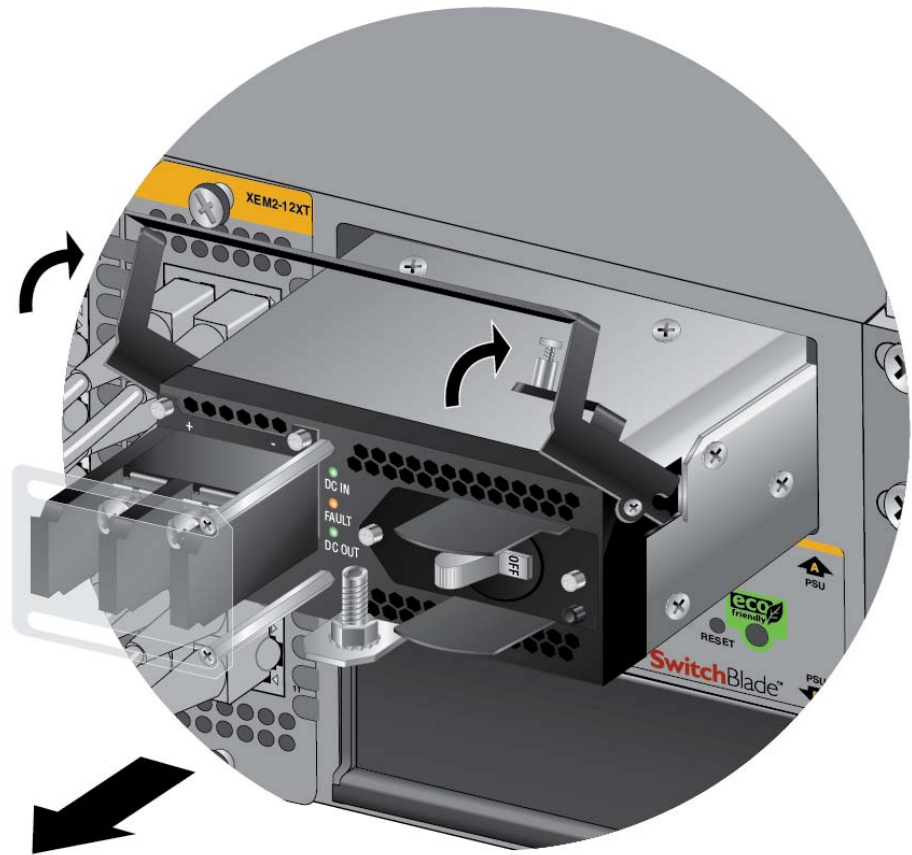

Figure 115. Lifting the Locking Handle and Removing the Power Supply
11. Lift the locking handle and slide the power supply from the chassis. Refer to Figure 115 on page 157.